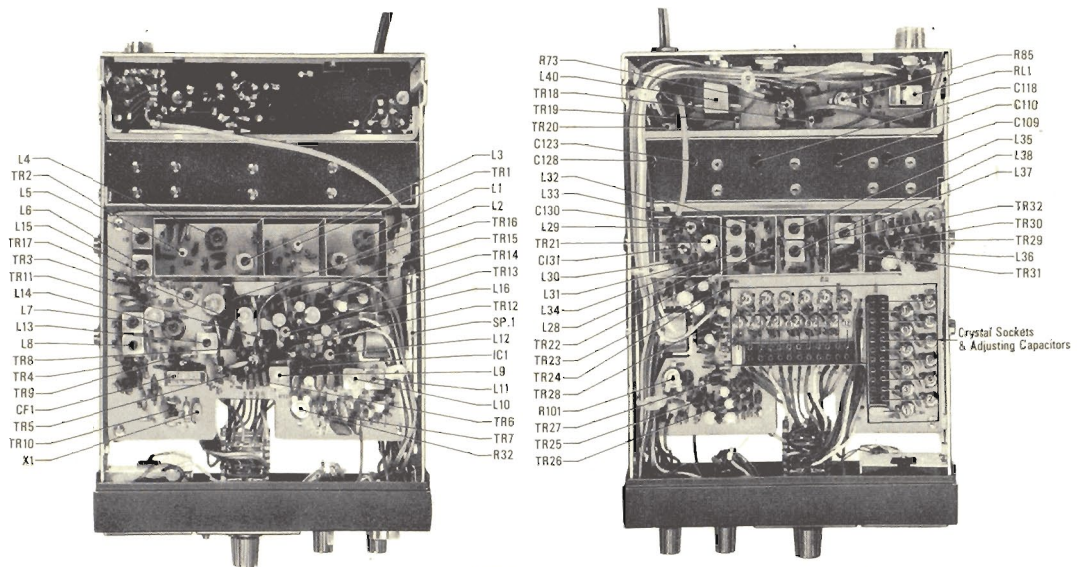

Figure 1
Trimmers have been placed on the crystal board to assist you in adjusting new crystals on frequency. Consult the trimmer location chart (Fig. 1) for their positions.
- d. To align the transmitter on a desired frequency, switch the channel control to the desired channel. Slowly adjust the trimmer capacitor for that channel until the desired frequency is achieved. Consult Fig. 1 for the location of the proper trimmer. These trimmers should be adjusted very slowly while the transmit frequency is observed on suitable measuring equipment. Another 13-509 equipped with a discriminator meter can serve well for this purpose. However it must be adapted.
- e. When setting the receiver to a desired frequency, a discriminator meter should be connected to Accessory plug and the receiver trimmer capacitors adjusted to cause the S meter to read a maximum and the discriminator meter to read zero. Refer to Fig. 1 for the location of the proper trimmer corresponding to the channel to be used. Adjust these trimmers very slowly while observing the discriminator meter. Another 13-509 operating on the desired frequency can be used for this purpose also.